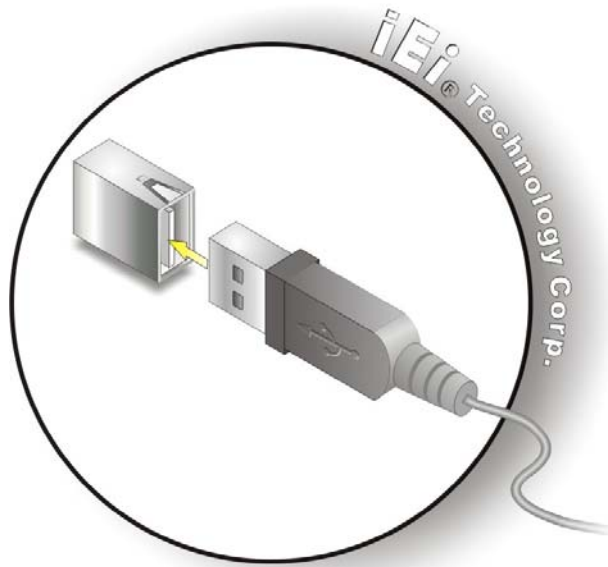

Figure 4-13: USB Device Connection
- Step 2:** Align the connectors. Align the USB device connector with one of the connectors on the PCISA-PV-D4251/N4551/D5251. See **Figure 4-13**.